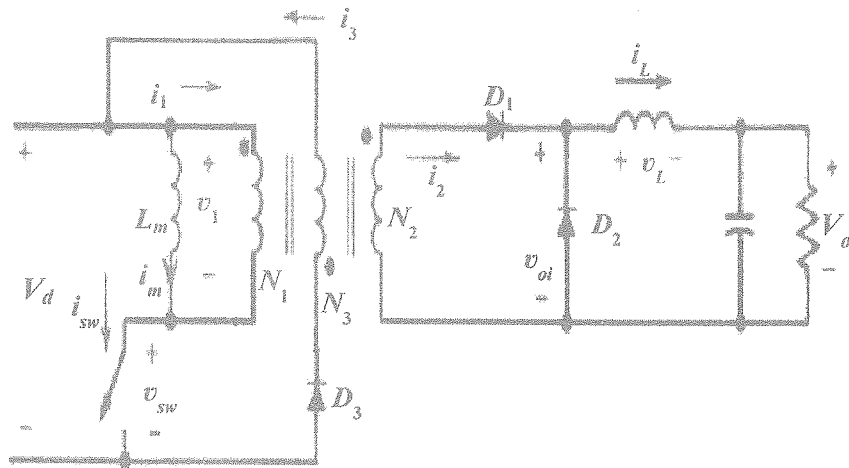

Figure Q3: An equivalent circuit of a Forward converter
- ii) Assuming Forward converter shown in Figure Q3 is operated in the complete demagnetizing conduction mode, draw the waveforms of v_1 , i_m , i_3 and i_l , stating the relevant expressions. Define the parameters used in your analysis.
- b) The parameters of a forward converter shown in Figure Q3 are $V_d = 240$ V, $V_o = 4$ V, $f_s = 100$ kHz, $L_m = 10$ mH, and $L = 0.05$ mH.